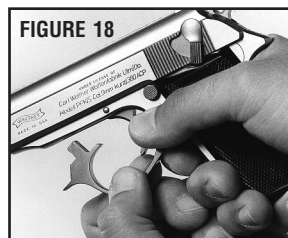

FIGURE 18
- With the pistol unloaded, hold the grip firmly in one hand and put your index finger along the side of the trigger guard. With your other hand, pull down the front of the trigger guard (Figure 18). When the front of the trigger guard comes out of the frame, press it sideways with your index finger to keep it from springing back up into the frame (Figure 19).